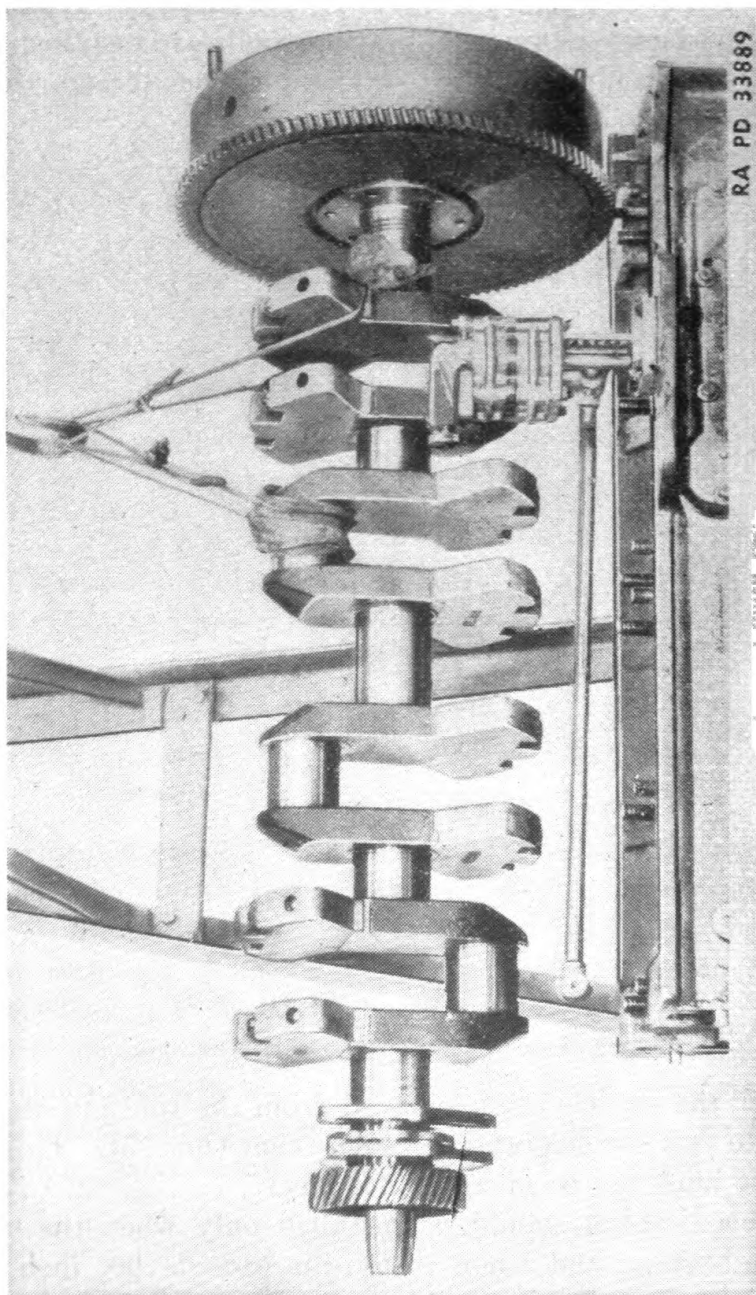

FIGURE 38.—Crankshaft.
31. General.—The crankshaft (fig. 38) is balanced by the use of counterweights. As these shafts are statically and dynamically balanced at the factory the balance weights should not be removed or machined for any reason. When removed from the engine, the shaft should be handled carefully so there will be no possibility of springing the shaft. When transporting a shaft, it should be crated and well supported.